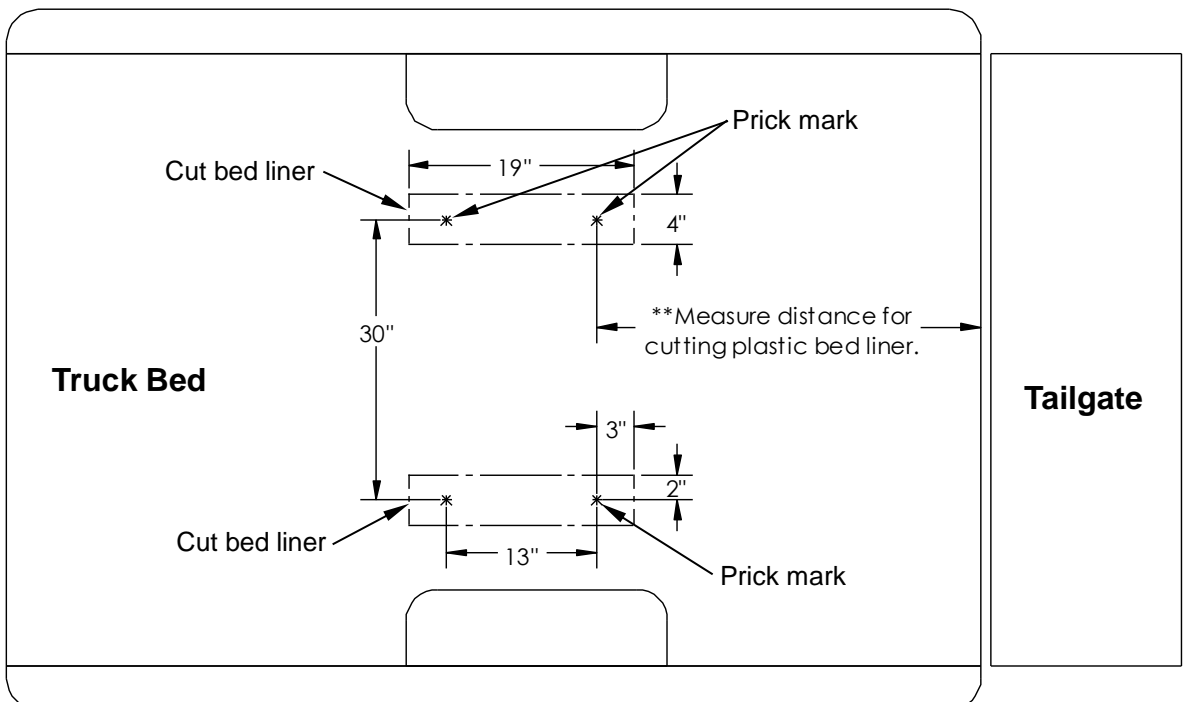

**Figure 18**
14. Using pointed bolt (**Figure 19**), screw pointed bolt in to the nut that is welded to the rail assembly until a prick mark is clearly visible on the truck bed (**Figure 18**). If access to a welded nut is obstructed by chassis components, a fourth prick mark should be made on the bed based upon measuring from the other prick marks (**Figure 20**). If a plastic bed liner is used cut 19" X 4" slots in the liner measured from prick marks in truck bed. If the *Elite Series* slider fifth wheel assembly is used, then see fifth wheel slider assembly instructions for slot cut dimensions.